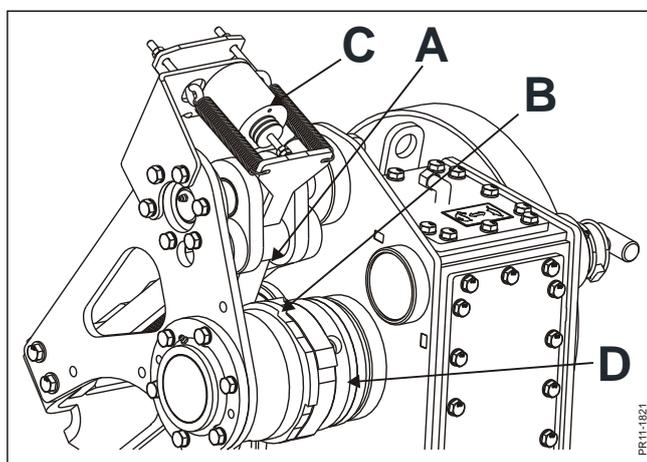

Fig. 5-3
**Fig. 5-3** When the metal has been detected, a signal will be sent so that the voltage on the magnet coil **C** is disconnected. Hereby the pawl **A** is activated and is engaged with the ratchet wheel **B** which blocks the feed intake and releases the clutch **D**. At the same time the reverse function goes to neutral position.